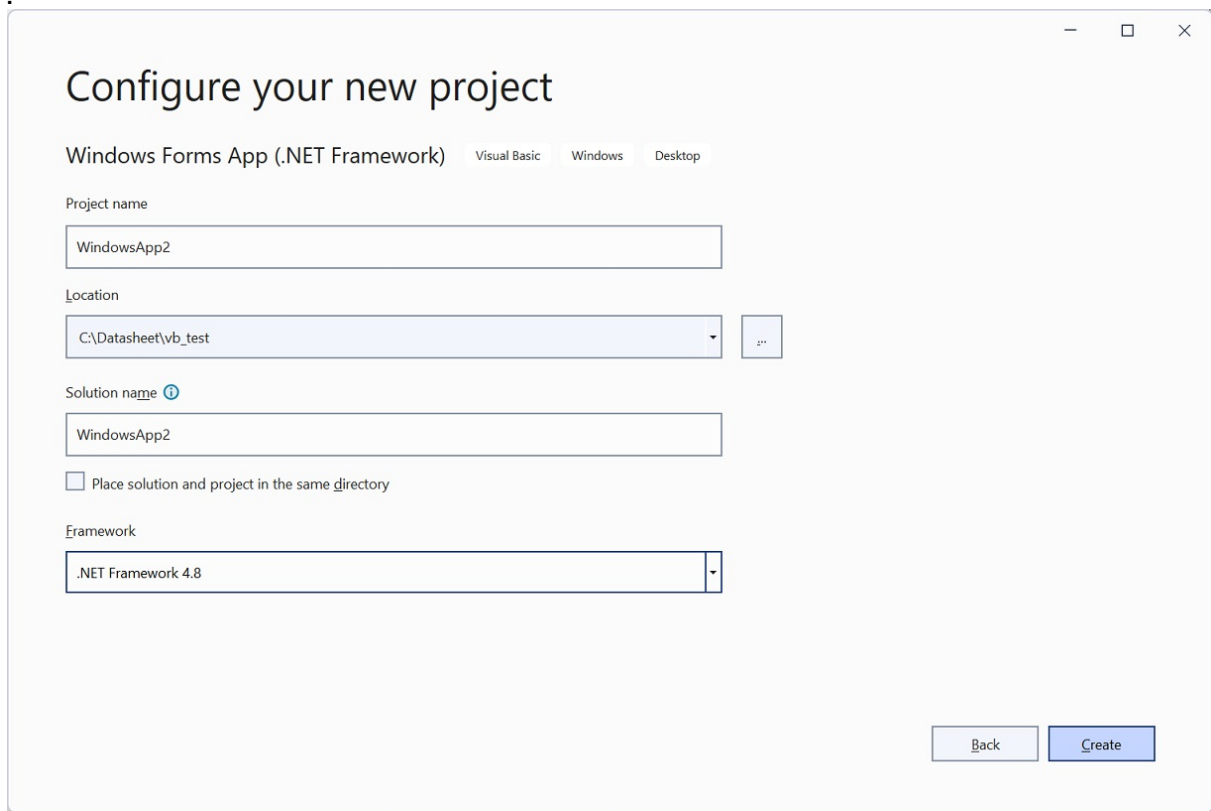
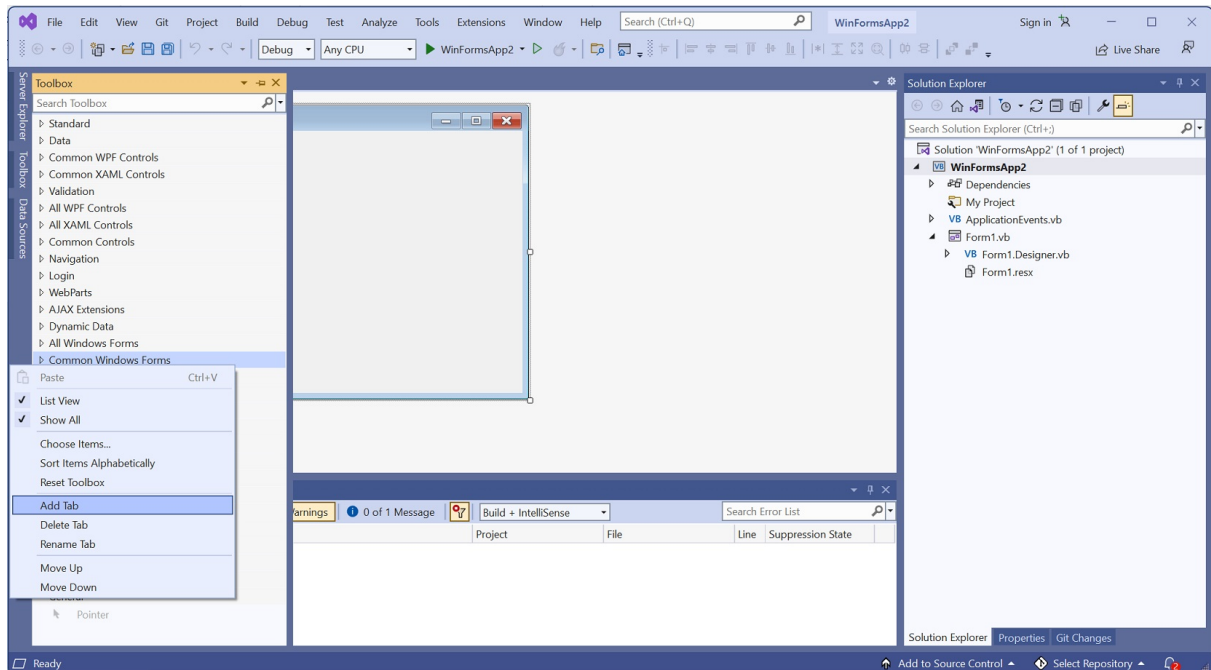

Fig.2 Project create
Fig. 3 Add Tab
3. Choose item as picture above , Click Next button , type Project name as Fig.2
4. Click Create button in above picture Fig2, you will see Fig.3 below. In the Toolbox, right click to pop up a menu, click "Add Tab"